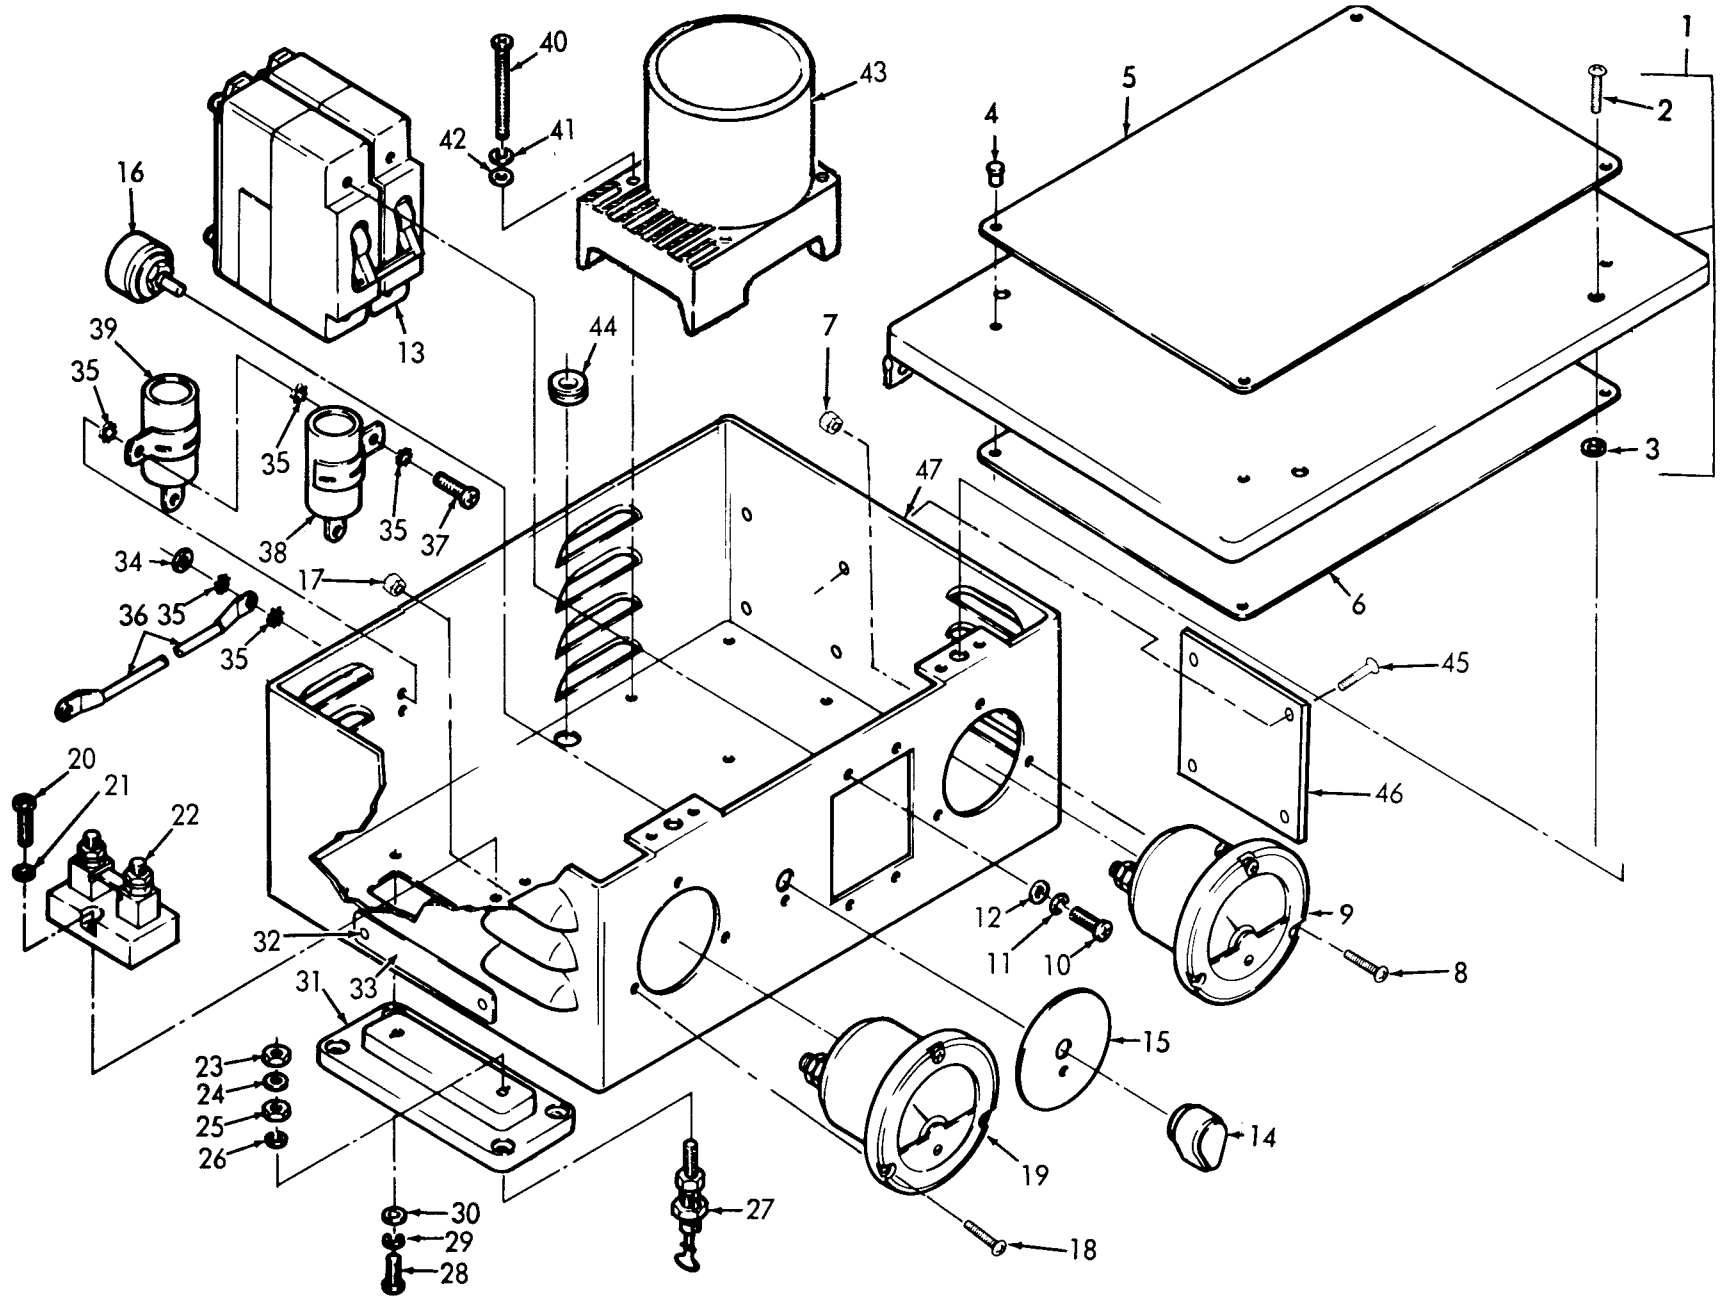

Figure 8-2. Control box assembly and reassembly (DC Unit).
- (1) Remove the control box (para 6-3).
- (2) Refer to figure 8-2 and disassemble the control box.
(1) Refer to figure 8-2 and assemble the control box.
(2) After assembly of the control box, apply one coat of clear varnish meeting specification MIL-V-173, Type II.
(3) Install the control box (para 6-3).